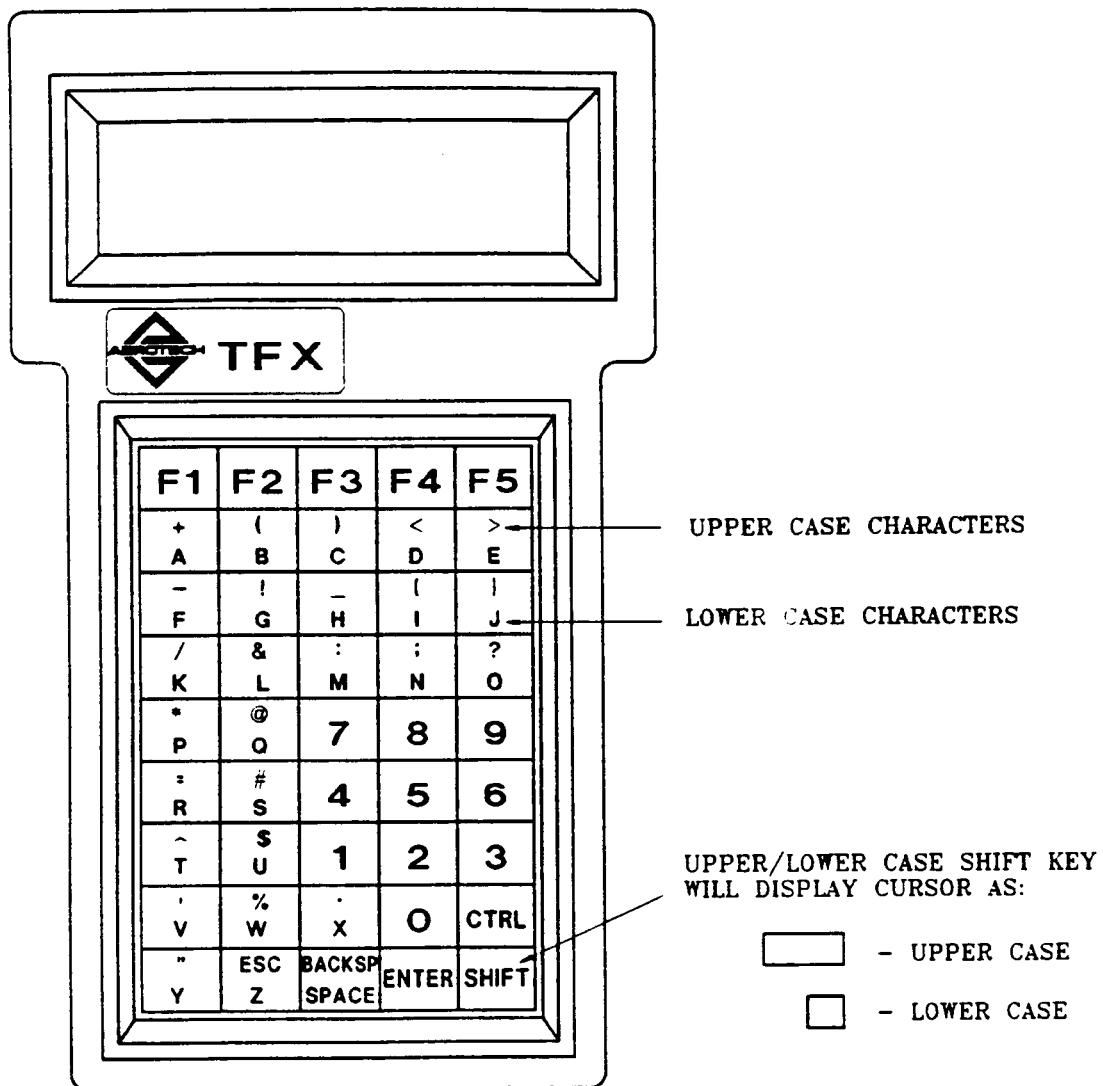

Figure 4-1: Outline of Hand Held Terminal Option for Unidex 1
Aerotech provides three control interface options for the Unidex 1 controller. These are the hand held terminal (TFX), the thumbwheel (TP) option, and the Thumbwheel Indexer option (TI). These options are outlined in figures 4-1, 4-2 and 4-3 respectively.
The hand held terminal (TFX) (figure 4-1) will be referred to as the "hand held terminal" throughout the remainder of this text. The hand held terminal is supplied with a cable that is designed to plug into the